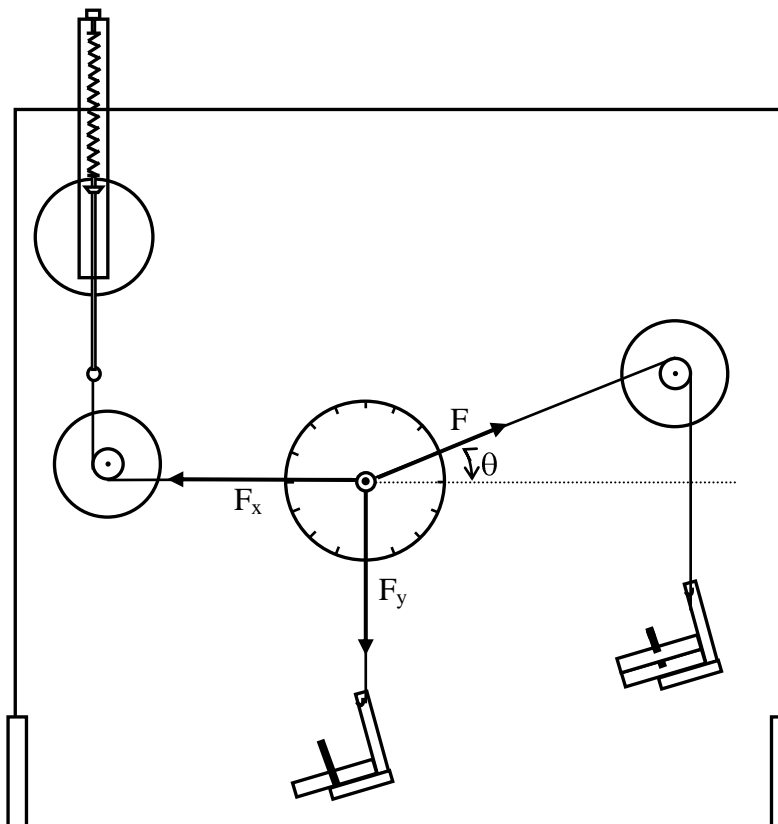

Figure 2.5: Equipment Setup
Set up the equipment as shown in Fig. 2.5. As shown, determine a force vector,  $\vec{F}$ , by hanging a mass from the Force Ring over a pulley. Use the Holding Pin to hold the Force Ring in place.
2. Record the magnitude and angle of  $\vec{F}$ . Measure the angle ( $\theta$ ) as shown in Fig.2.5.
8. Now setup the Spring Balance and a hanging mass, as in the first part of this experiment (Fig.2.5). Using the values you calculated in question 7, position the Spring Balance so it pulls the Force Ring horizontally by an amount  $\vec{F}_x$ . Adjust the hanging mass so it pulls the Force Ring vertically down by an amount  $\vec{F}_y$ .